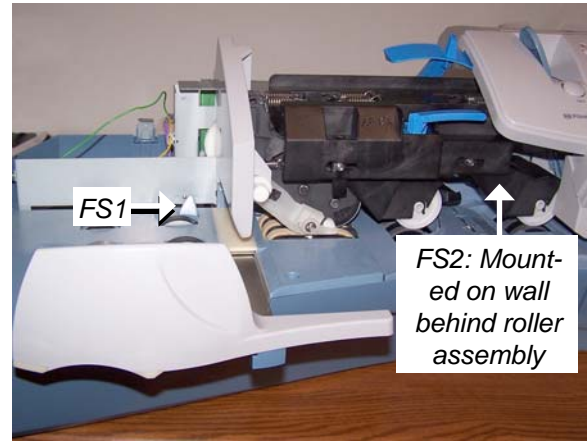

Figure 3-11 AutoFeeder Transport Sensors
**Autofeeder.** FS1 (Feeder Sensor 1) is the stack present sensor. FS2 is a lead edge/trail edge sensor, the input of which helps the system determine envelope length. It also serves as a fail-to-feed detector in the event that a mailpiece fails to reach FS2 within a predetermined time. See Figure 3-11 for the location of the autofeeder sensors.